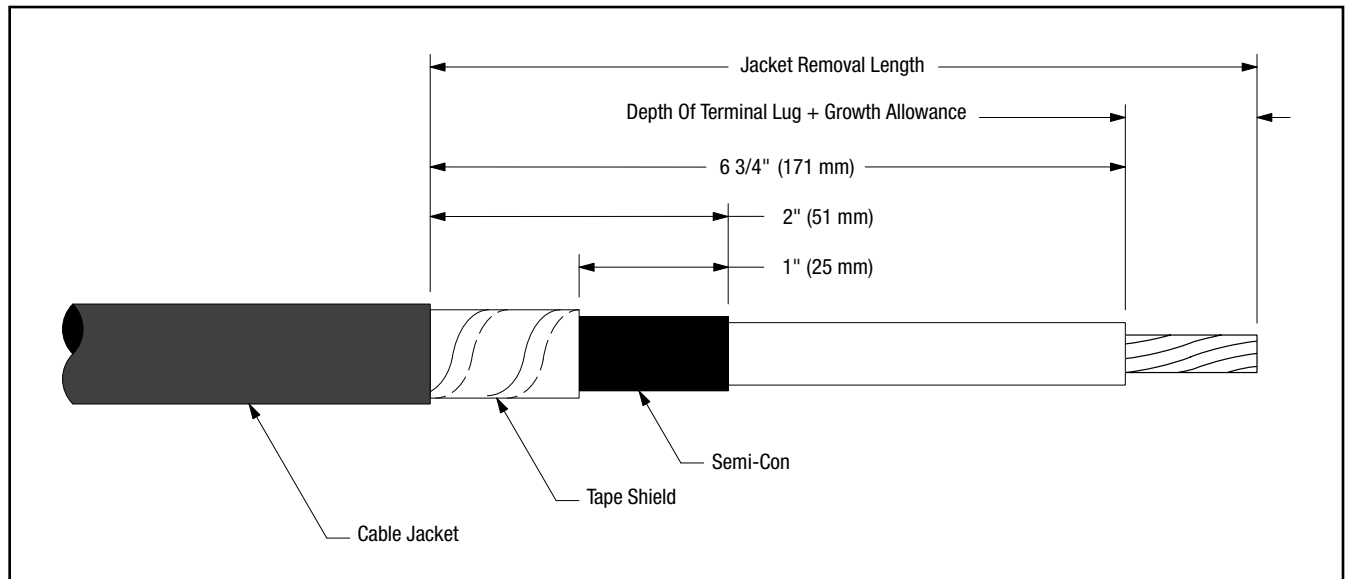

Figure 1
- 2.2 Prepare cable using dimensions shown in *Figure 1*. **BE SURE TO ALLOW FOR DEPTH OF TERMINAL LUG.** If necessary to prevent tape shield from unrolling, hold down edge with a single wrap of 3M™ EMI Copper Foil Shielding Tape 1181.